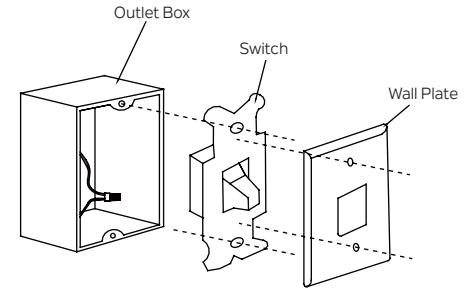

Fig. 25
**Step 1.** Remove the existing wall plate and the old switch from the wall outlet box. Wire the BLACK leads (hot) together with connector and push back inside the outlet box. (Fig. 25)